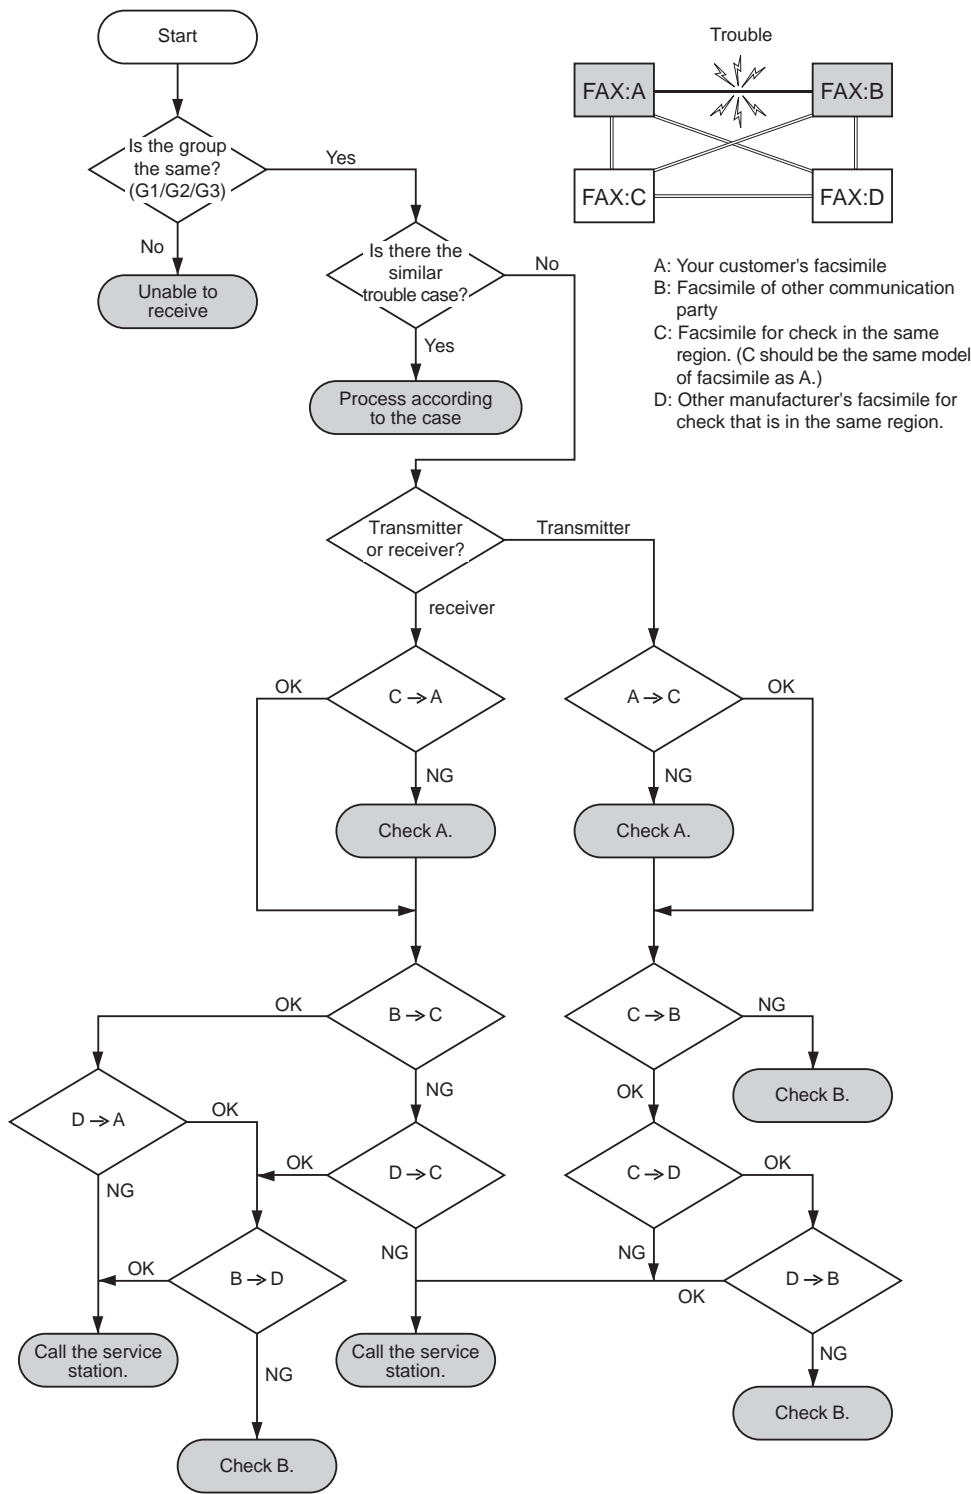

Figure 3-16 Flowchart for Processing Communication Troubles with other manufacturer’s facsimiles
"Call the service station" in the flowchart (*Fig. 3-16*) means that problems may occur with regard to the communication compatibility of facsimile, consult the matter with the staff in charge at the service station. To quicken the resolving of the problem, report the information listed in (1) above.